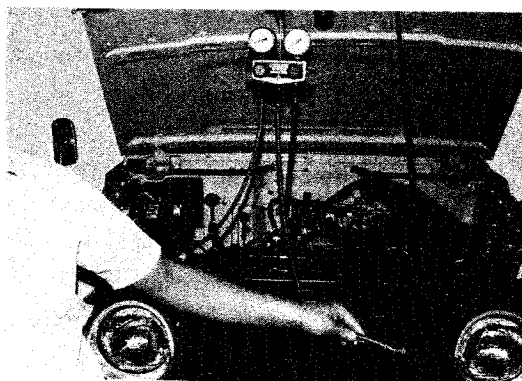

Fig. 59
- 2) Discharge the refrigerant very slowly from the refrigeration system. See Fig. 59.